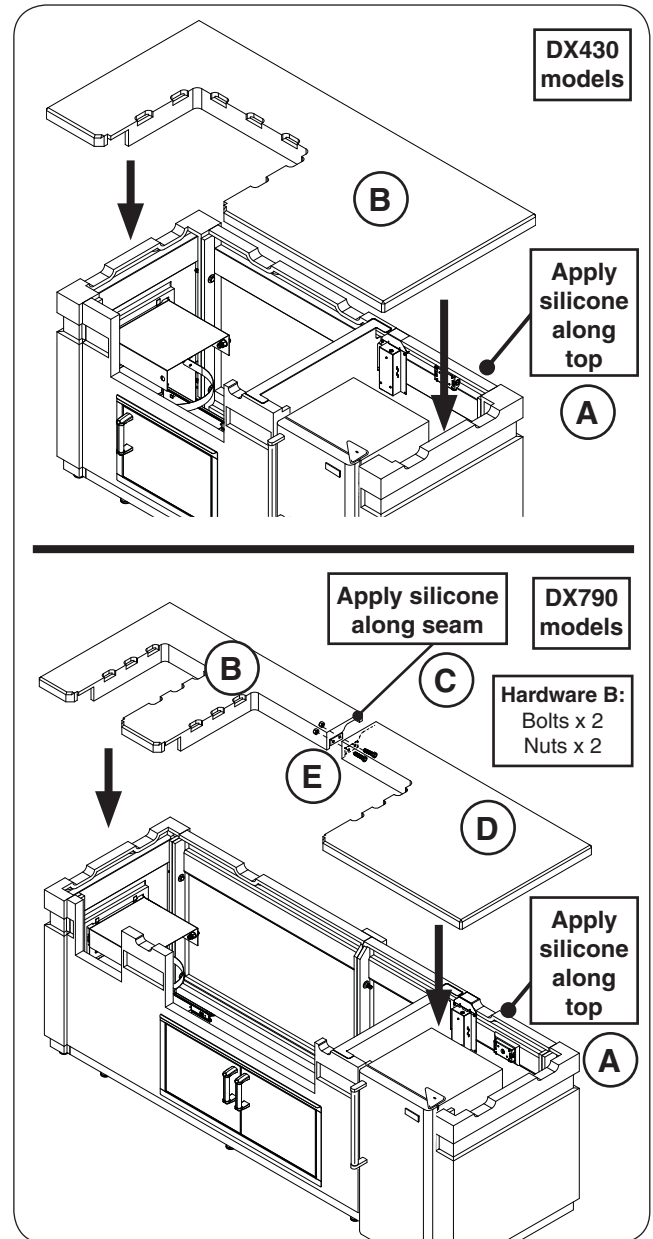

Fig. 14-1 Place / assemble countertop
1. Apply silicone along the top of the island (see Fig. 14-1, A).
2. Place the countertop onto the island as shown in Fig. 14-1, B. (Be sure to align the cutout in the countertop with the opening in the front wall.)
2. Place the countertop left piece onto the island as shown in Fig. 14-1, B. (Be sure to align the cutouts in the countertop with the openings in the front wall.)
3. Apply silicone along the countertop seam (see Fig. 14-1, C).
4. Place the countertop right piece onto the island as shown in Fig. 14-1, D. (Be sure to align the cutout in the countertop with the opening in the front wall.)
5. Repeat the hardware installation process (hardware kit B) and use two $\frac{3}{4}$ " open end wrenches (or equivalent) to tighten (see Fig. 14-1, E).